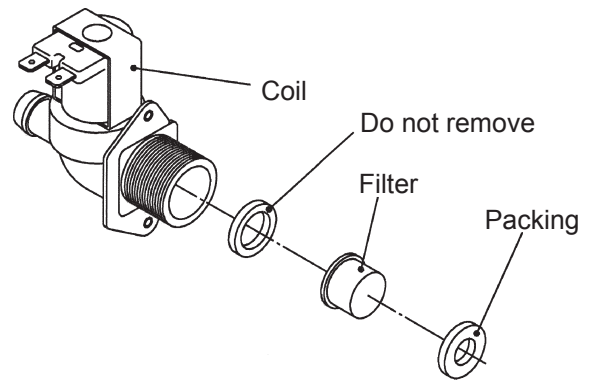

Fig. 12
30) Remove the Control Water Valve by releasing the Fitting Nut. Do not lose the Packing (See Fig. 12).
31) Remove the Mesh Filter from the inlet side of the Valve (See Fig. 12).